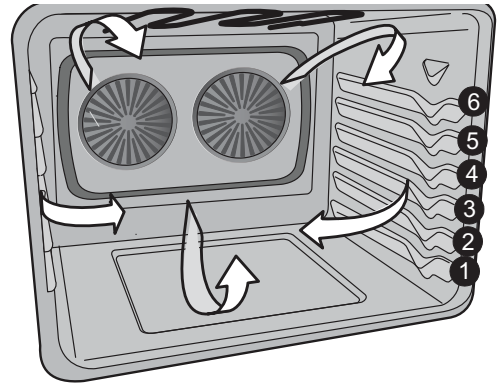

Figure 4: Use rack position 3 for No Preheat baking
- Always place the food in the center of the oven on rack position 3 (Figure 4). No Preheat is designed for baking on a single oven rack.